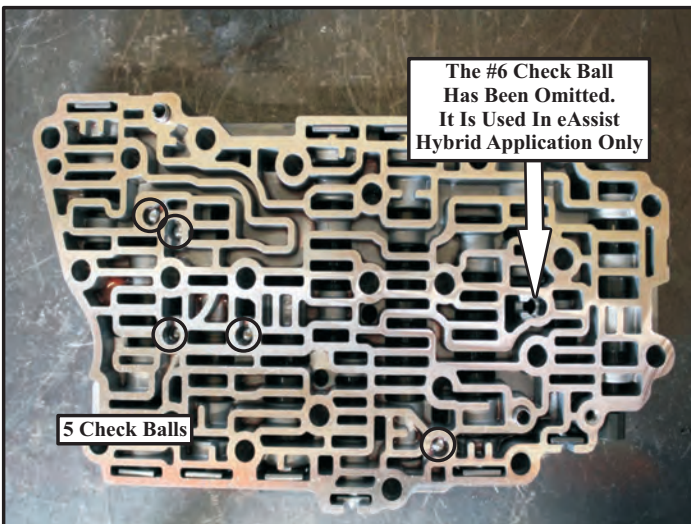

Figure 15
- (10) The main control valve body has the #6 check ball eliminated which is used in the hybrid application only (figure 15).